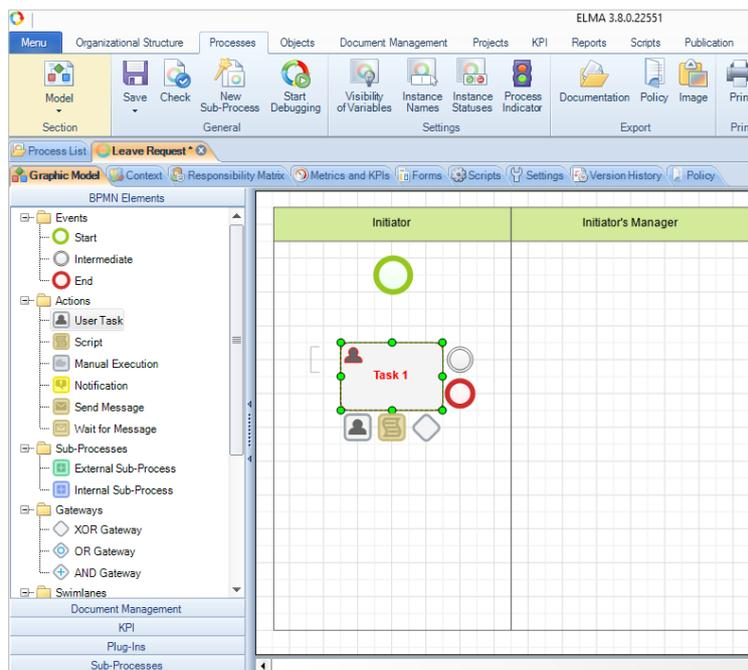

Fig. 58. Adding a User Task element
1. Use the mouse to drag the **User Task** icon from the **Left Toolbar** to the empty place within the swimlane that represents the user responsible for this activity. The system generates the name of this activity by default. You can change this name later. (Fig. 58).